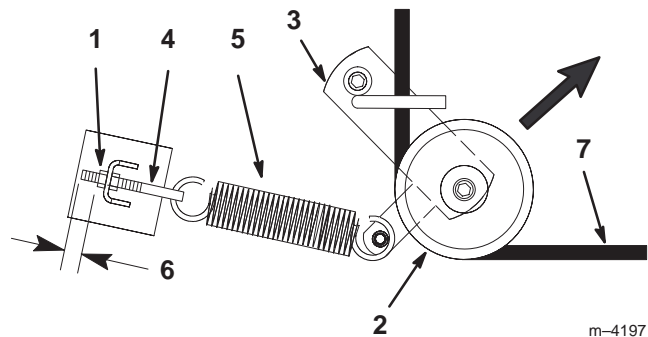
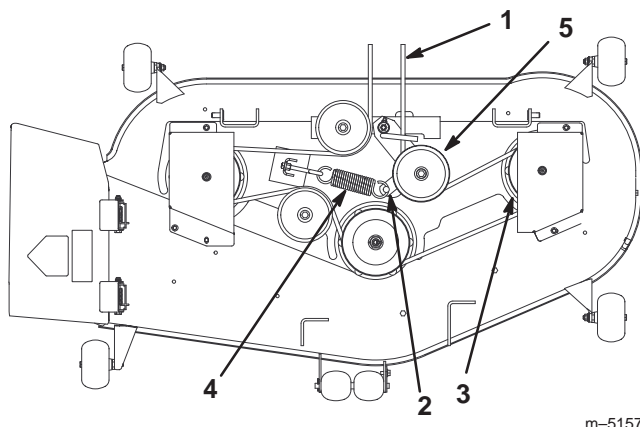

Figure 42
Figure 43
4. Pull the idler pulley in the direction shown in Figure 42 and roll the belt off of the pulleys.
5. Route the new belt through the idler arm and around the idler pulley (Fig. 42).
6. Pull the idler pulley in the direction shown in Figure 42 and route the belt onto the other pulleys (Fig. 43).
Note: Check to ensure that the length of exposed thread on the spring eye bolt is 1/8 inch (3 mm) (Fig. 42).